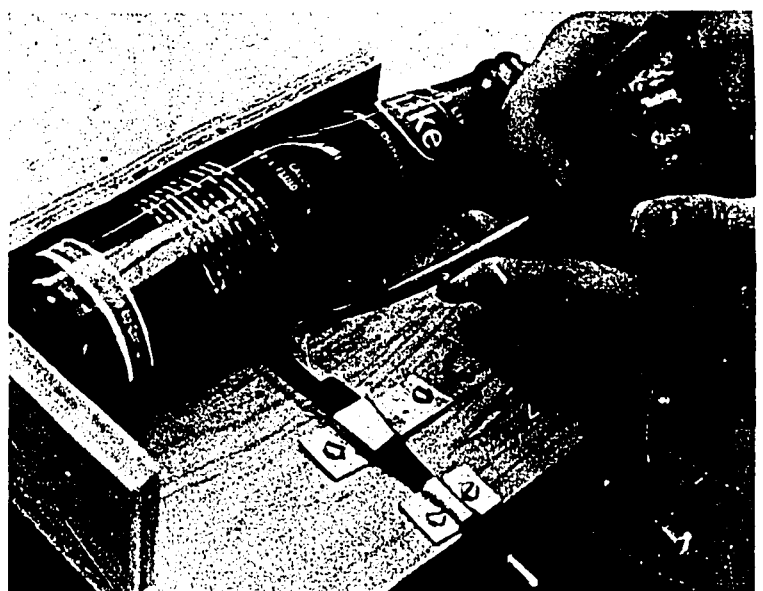

Fig. 116-4. Oiling Glass Cutter Wheel
12. Place the bottle in the glass cutting jig and oil the cutter wheel. See Fig. 116-4.